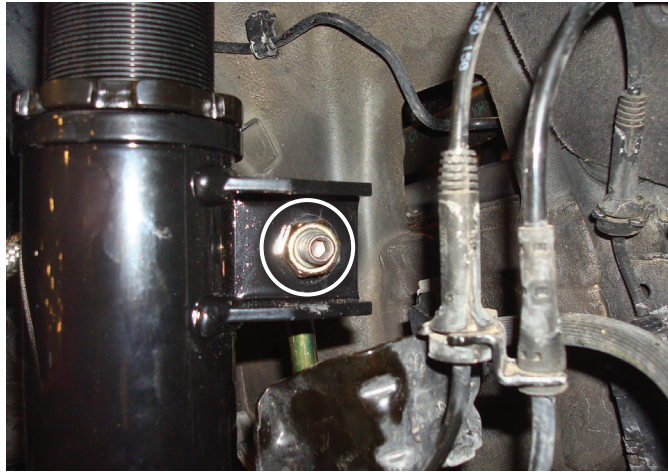

Fig. 25
6. Attach the supplied stabilizer end link (F) to the strut and stabilizer bar. Torque nuts to 56Nm (41 lb.-ft.) (Figs. 25 & 26).